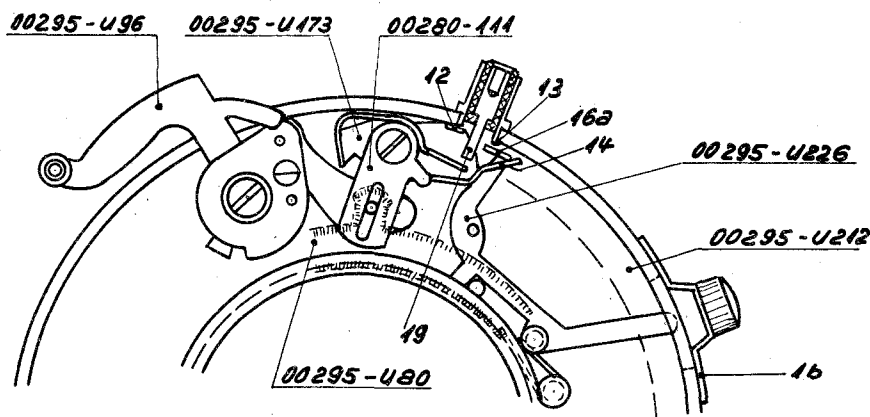
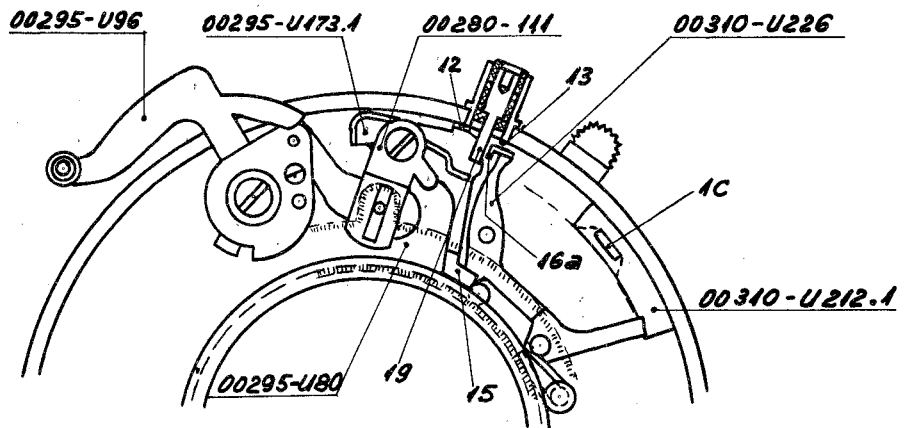
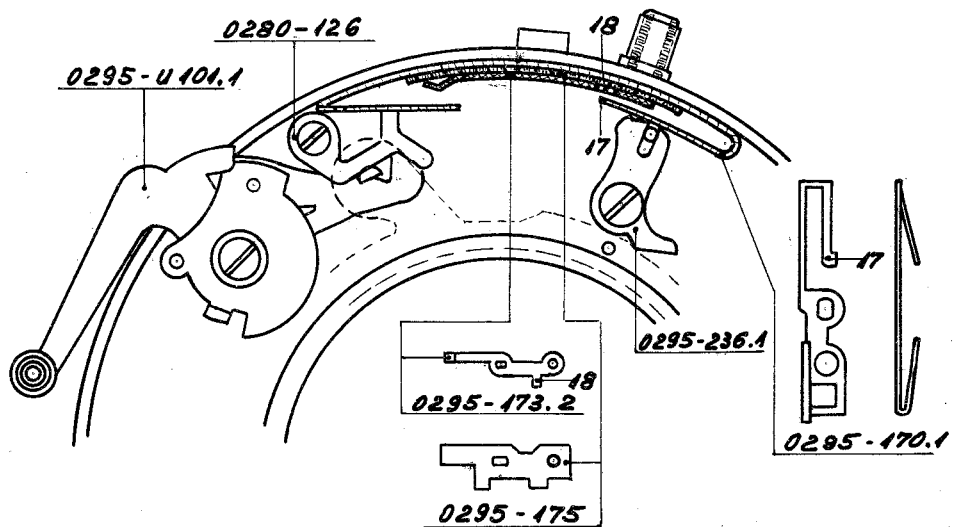

Fig. 11a
Fig. 11b
Fig. 11c
(1) Figures 11a and 11b illustrated the two hitherto produced types of flash firing mechanism used in Size 00 shutters, Fig. 11a showing an earlier design, while Fig. 11b shows the current production model. Fig. 11c illustrates the flash firing mechanism used in Size 0 shutters.
(2) In PRONTOR-SV shutters, contact is made at two different points (X- and M-contacts). The design of the X-contact is the same as that of the contact system described on Sheets No. 16 and 17, these sheets thus fully covering the PRONTOR-SV shutter.